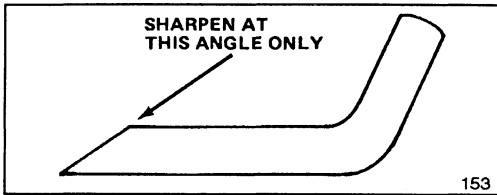

Figure 21
6. SHARPENING BLADE—Using a file, sharpen top side of blade (side facing mower housing) and maintain original cutting angle (Fig. 21). The blade will remain balanced if the same amount of material is removed from both cutting edges.